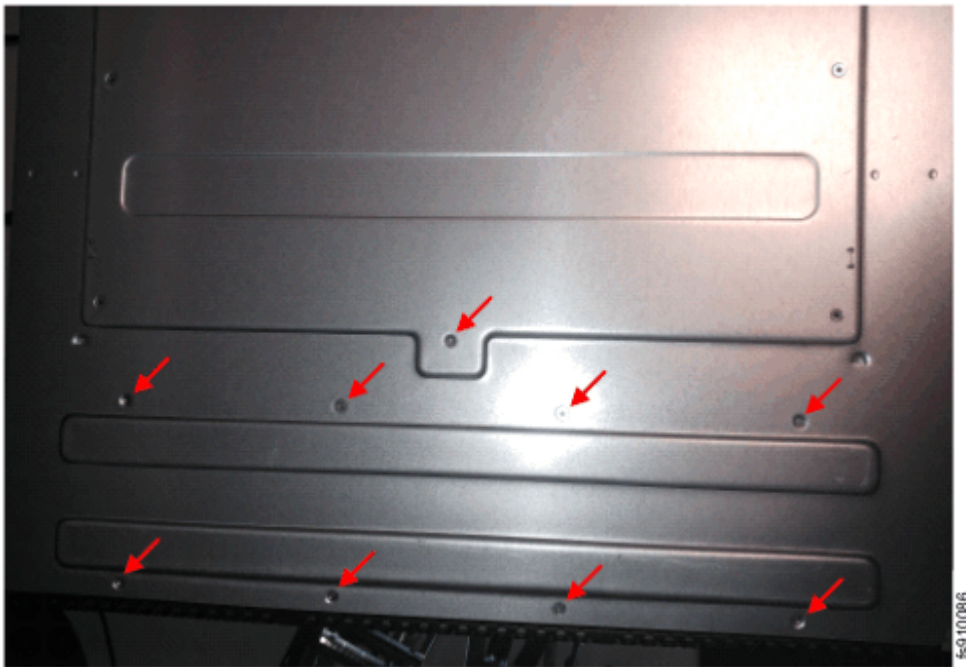

Figure 98. Location of the screws on the underside of the control enclosure
13. Remove the nine screws from under the front of the enclosure (see Figure 98 on page 148).